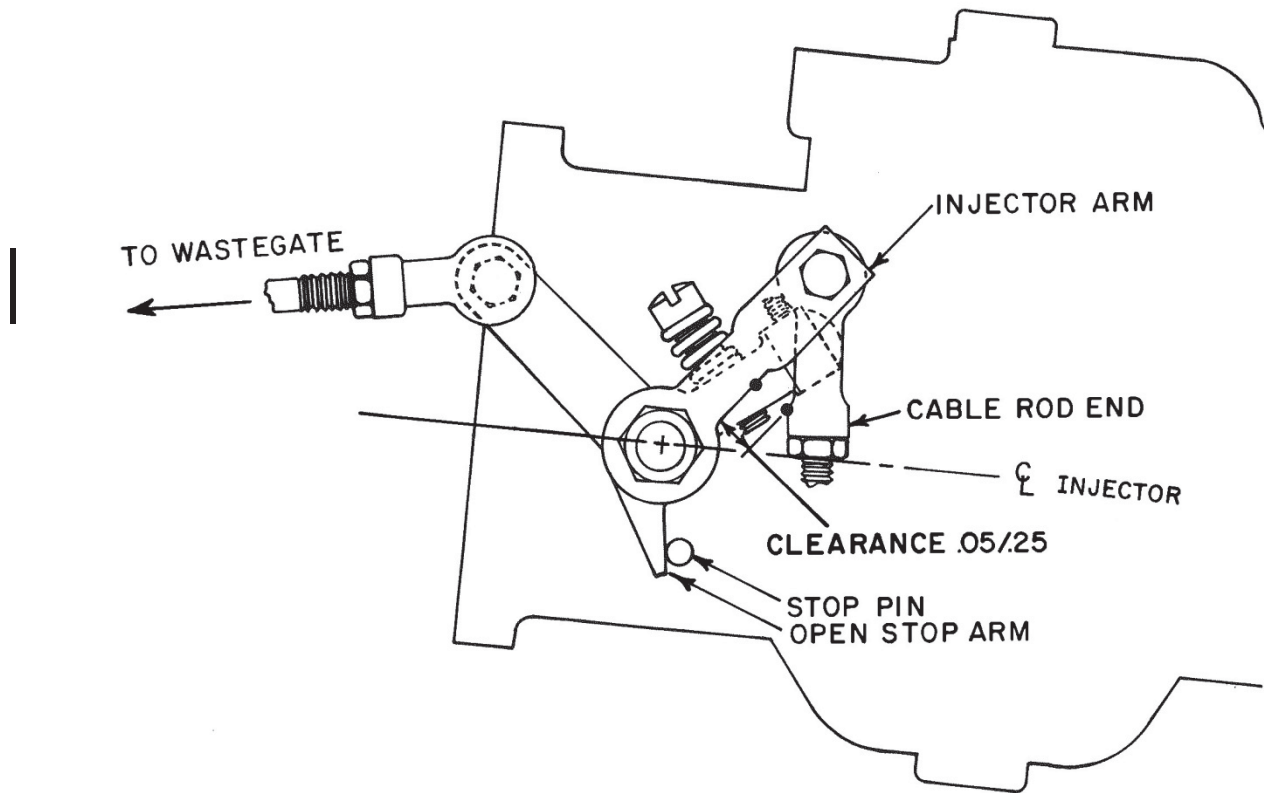

Figure 13-30. Fuel Servo Full Throttle Position
- (c) Check if injector wide open stop arm is against stop pin for (A) only (Figure 13-30). On -1 or -2 servos, stop arm may not contact stop pin; adjust to within .125 inch of stop pin.